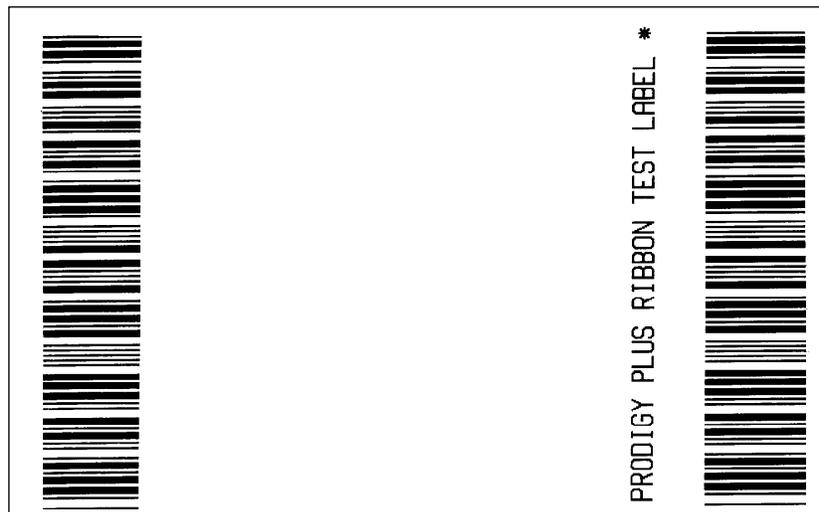

Figure 2-8
5. The PA/4000 will now print multiple copies of the label shown in Figure 2-8.